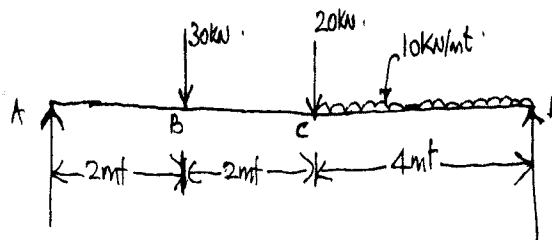

Fig. Q5(b)
b. A simply supported beam is shown in Fig. Q5(b). Draw the shearing force diagram and bending moment diagram. (12 Marks)